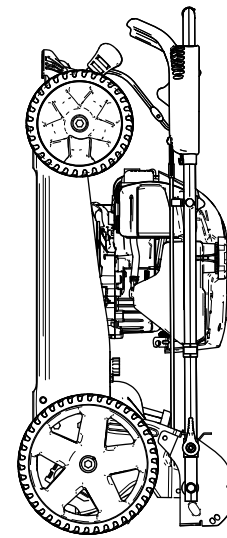

Figure 24
6. Lift the front of the machine by the handle and move it into a storage space (Figure 24).